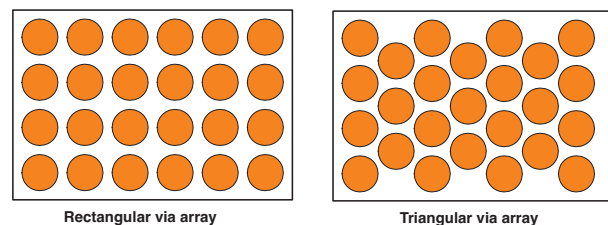

Figure 19: Rectangular and Triangular via arrays
**Pattern: Rectangular array.** Notes – There are two possible uniform patterns, designated *Rectangular Array* and *Triangular Array* respectively, and shown in **Figure 19**. For optimum design, it must be determined which pattern places the most via holes under a chip. This consideration can become fairly complex, since vias that are even partially under a chip can still contribute significantly to heat conduction. Although details are beyond the scope of this discussion, AVX has developed some useful algorithms to aid in optimum via-patch design; customer assistance is available from the factory. For most – but not all – situations, the rectangular array yields better results than its triangular counterpart.